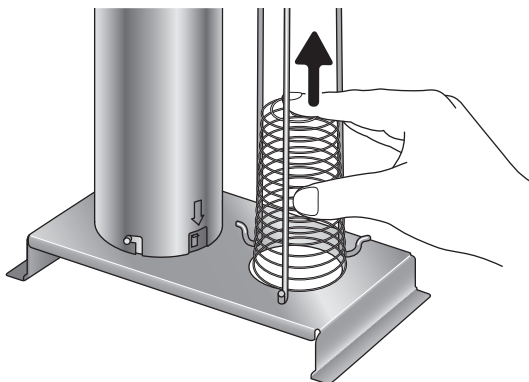

Fig. 7: Re-inserting the springs
8. If you have removed the springs for cleaning, compress them again and thread them inside the 3 retaining rods of the grill insert (fig. 7).
When the spring is put back, ensure that its wider end faces the threaded hole of the grill insert (fig. 7). Otherwise, the spring will not be able to expand fully.